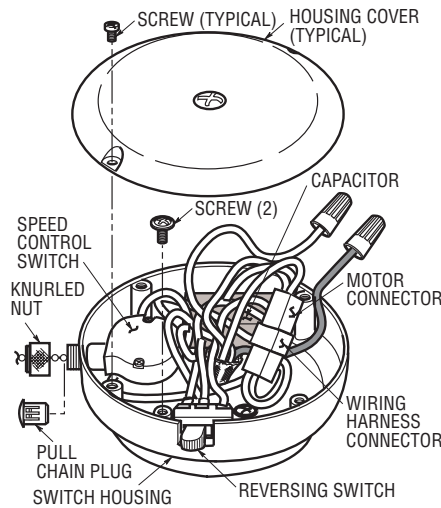

Figure 11
- 1. Remove and retain the screws securing the housing cover to the switch housing (Figure 11).
- 2. **All Ceiling Fan Models.** Disconnect the motor connector from the wiring harness connector (Figure 11). Remove the knurled nut securing the speed control switch to the switch housing.
- 7. All Ceiling Fan Models. Separate the capacitor (held in place with two-sided tape) from the switch housing (Figure 11) and remove the wiring harness and switch(es) from the switch housing.
- 8. All Ceiling Fan Models. Close the hole(s) for the speed control switch, the upright switch, and the reversing switch by installing pull chain plug(s) (supplied) or rectangular plug (supplied) in the hole(s). (See Figures 11, 12, and 13). Choose the color that best matches your ceiling fan.